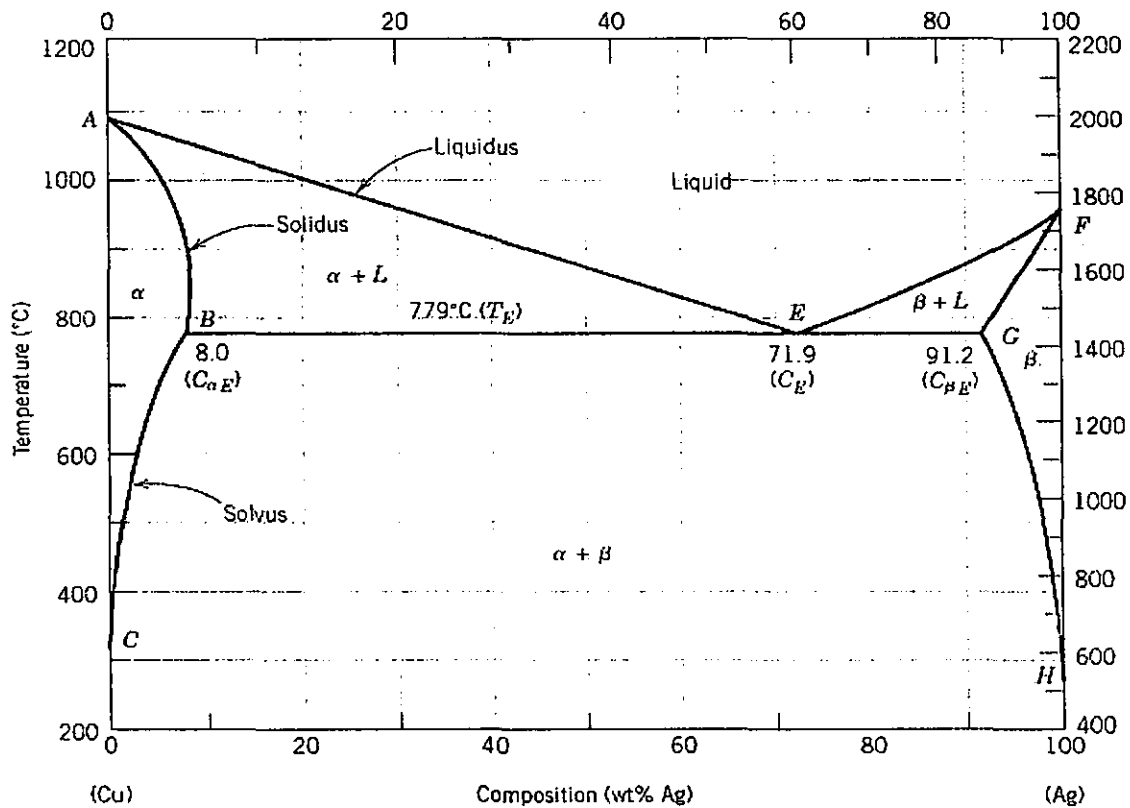

Figure-1: Copper (Cu)-Silver (Ag) phase diagram
12. The figure-1 below is the phase diagram for copper (Cu) and silver (Ag). Considering 40 wt% of Ag at 779 °C,